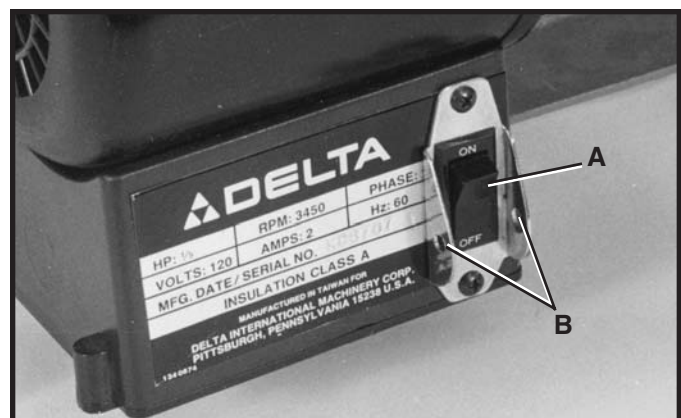

Fig. 14
The switch (A) Fig. 14, is located under the grinder motor. When the switch is pushed to the "ON" position, both grinding wheels will turn. To stop the grinding wheels, push the switch to the "OFF" position. **IMPORTANT:** We suggest when the grinder is not in use, the switch be locked in the "OFF" position, using a padlock thru the two holes (B) in the switch plate.